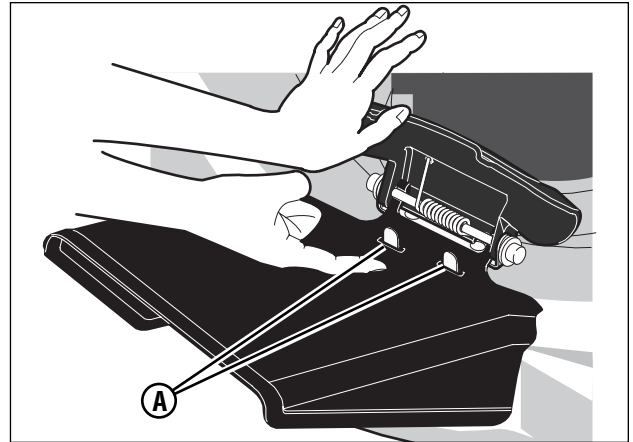

Figure 9: Side discharge deflector locking tabs
3. Lower the side deflector. Make sure the locking tab (**A**, **Figure 9**) goes through the slot in the side deflector.